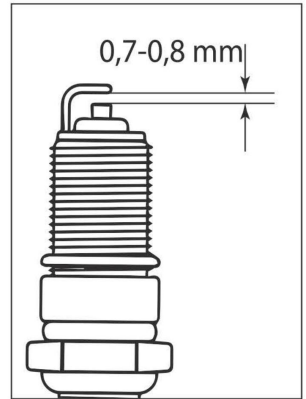

Fig. 27
7. Check the gap between the ground electrode and the center electrode, using a special probe. If necessary set the gap to 0.7-0.8 mm (Fig. 27).